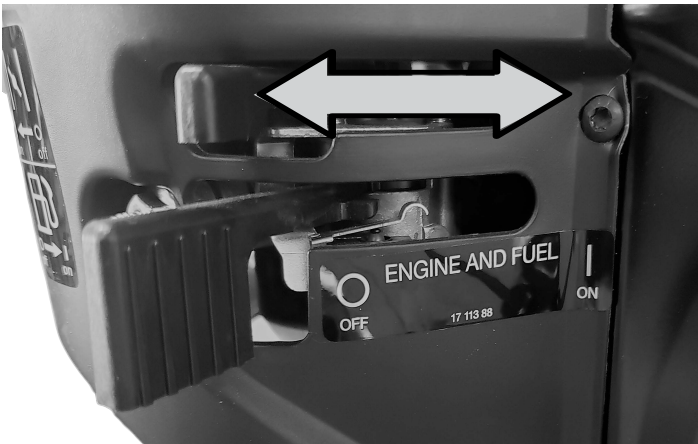

FIGURE 2
- Slide choke to on position. See figure 2.